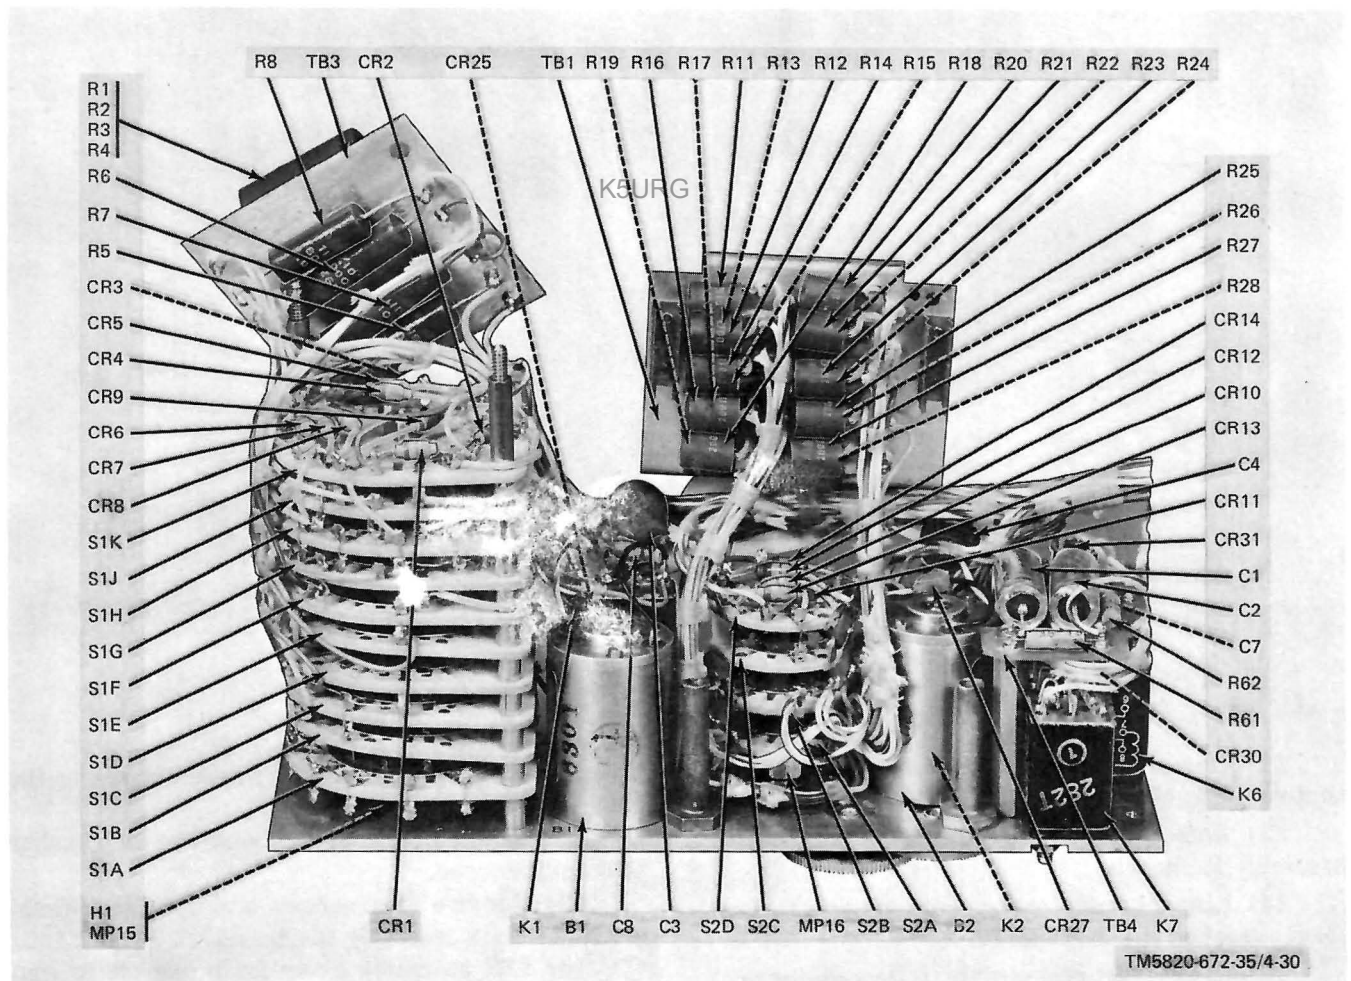

Figure 3-2. One-hundred-kHz and 1-MHz tuning circuits.
(5) For correct reassembly, follow above procedures in reverse order.
b. Refer to figure 3-2. Remove the 100-kHz and 1-MHz tuning circuits assembly from the chassis as follows:
(1) Remove five screws that retain assembly to chassis.
(2) Lift assembly away from chassis to limits of attached cable assembly.
(3) For access to components mounted on terminal board attached to top of largest rotary switch, remove one screw and one washer, and raise terminal board to limits of attached wires.
(4) For access to components mounted on terminal board mounted above smallest rotary switch, merely lift up on both sides of terminal